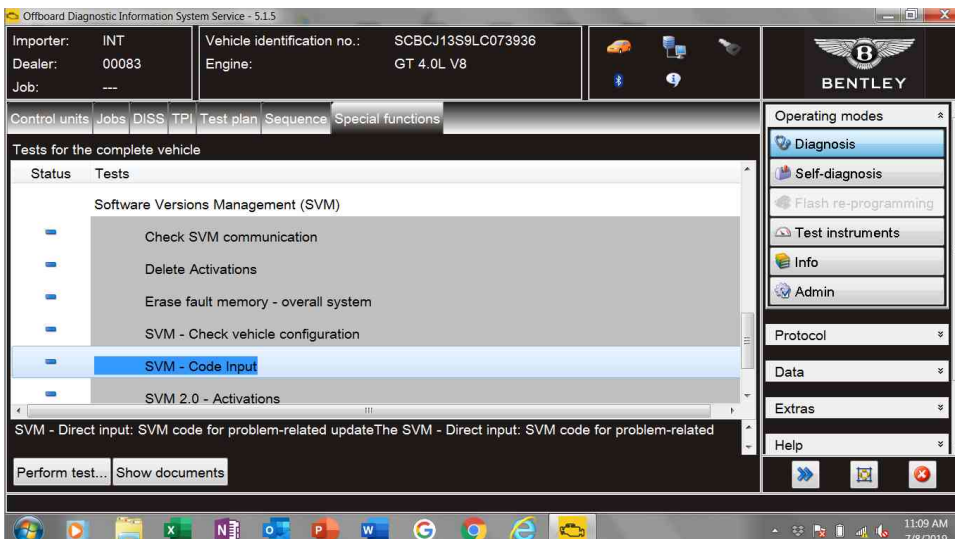

Figure 1
- Because of the highest transmission stability we recommend the use of the diagnosis interface VAS 6154 (WiFi diagnostic tool) only in the USB operation or the cable-connected VAS 5055 for the reprogramming (updating) of control units. If these units are not available, the diagnosis interface VAS 5054 (A) can also be used in USB mode.
1. Select and run Guided fault finding. Within the Special functions tab select SVM – Code Input then select Perform test (Figure 1).